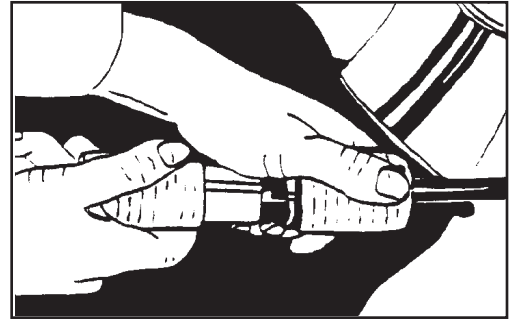

Figure 5
This machine must be connected to the electrical ground to protect the operator from electric shock. The machine has a power cord with two main conductors and one earthing conductor. Connect the plug to the type of receptacle shown in figure 5. The green and yellow conductor cord is the ground wire. Never connect this wire to any terminal other than the ground terminal.
2. Connect the extension cord to the short power cord on the machine. See figure 5.